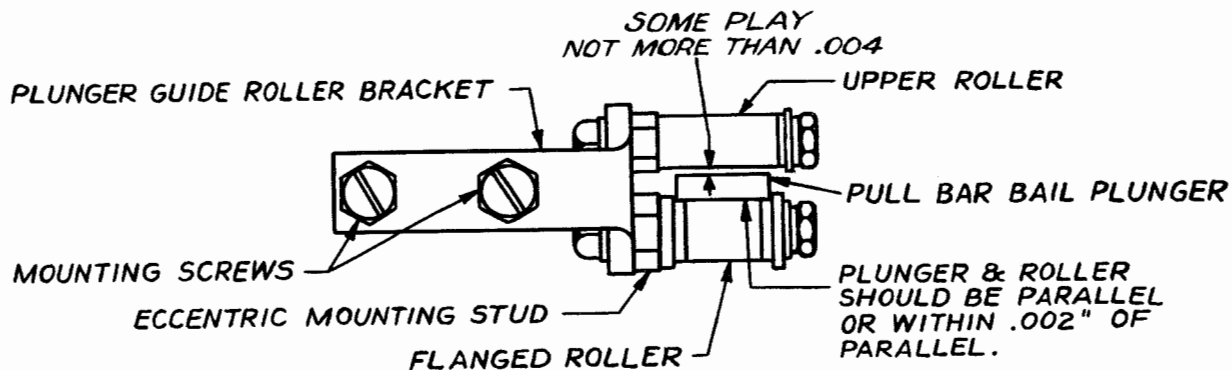

Figure 1
2.01 Pullbar Bail: The pullbar bail should be within 0.010 inch of being parallel to the stripper plate when the bail is held forward in a position adjacent to the stripper plate, and the bail plunger should be within 0.002 inch of being parallel to the flanged guide roller. Gauge by eye. See Figures 1 and 4.
To Adjust: Reposition the eccentric-mounting stud of the flanged roller. See Figure 1.